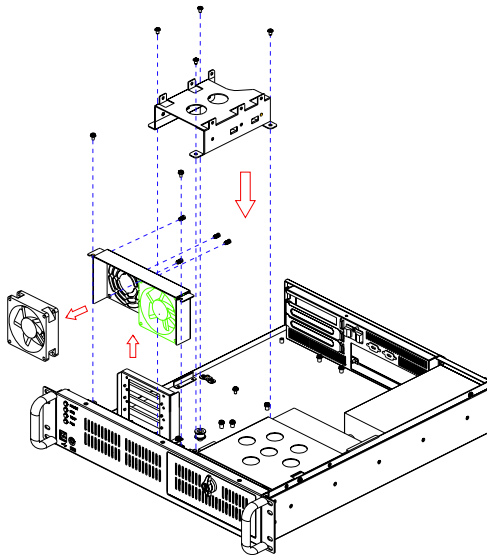

Figure 3.5: Replacing the cooling fan
5. Fix the working fan onto the bracket with the four screws. (see *Figure 3.5*)